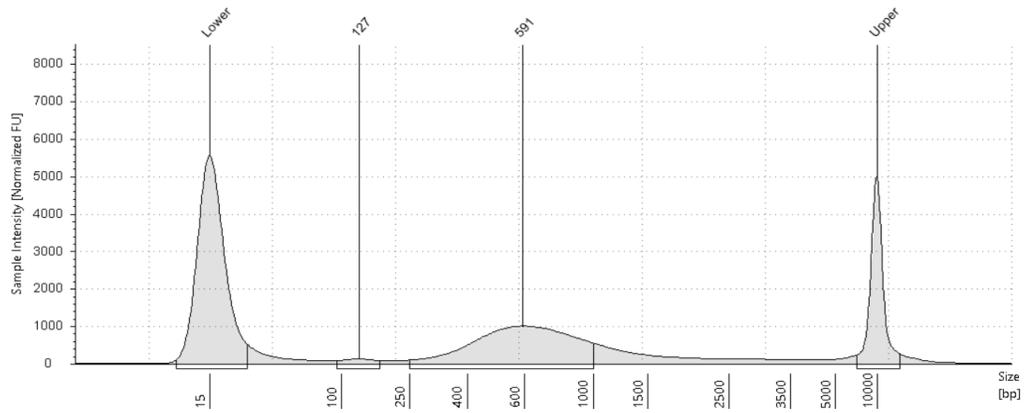

Figure 14. Example TapeStation D5000 electropherogram results after library clean-up.
39. Quantify the library products using Qubit (1X dsDNA HS assay kit) and a Bioanalyzer or TapeStation following the manufacturer's guidelines (Bioanalyzer High Sensitivity DNA assay, TapeStation High Sensitivity D5000 assay or TapeStation D5000 assay). Concentrations should be **>1 ng/µl**. See an example library trace in Figure 14.